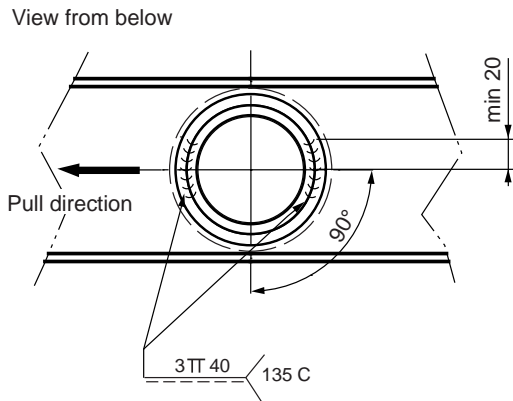

Figure 13
- Remove the allen screw (1). Use the flats on the cylinder rod (4) to stop rotation.
- During reassembly check that the sealing rings (2, 3) are not damaged. The washer with the O-ring chamfer (2) must be installed above the diaphragm, see *figure 13*. When tightening the allen screw, use the flats on the cylinder rod (4) to stop rotation. Tightening torque 50 Nm.
- Reassemble and weld the bush 26-083000 as per figure 13.